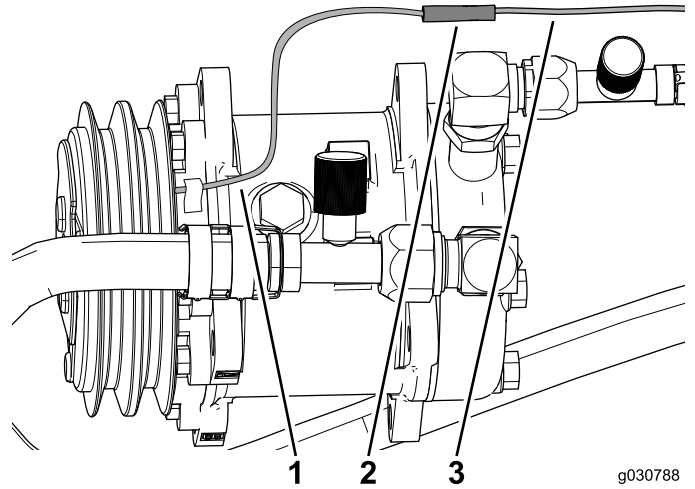

Figure 47
3. Connect the wire from the air-conditioner compressor to the bullet connector on the wire harness (Figure 47).